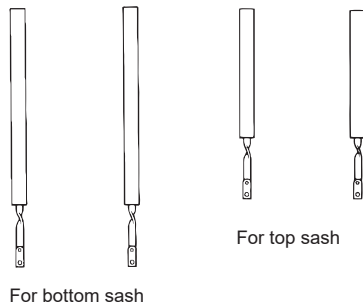

**FIG 7**
**2)** It is important that the balances used are suitable for the weight of the sash. They are manufactured in weight groups that are identified by a colour (Fig. 7).